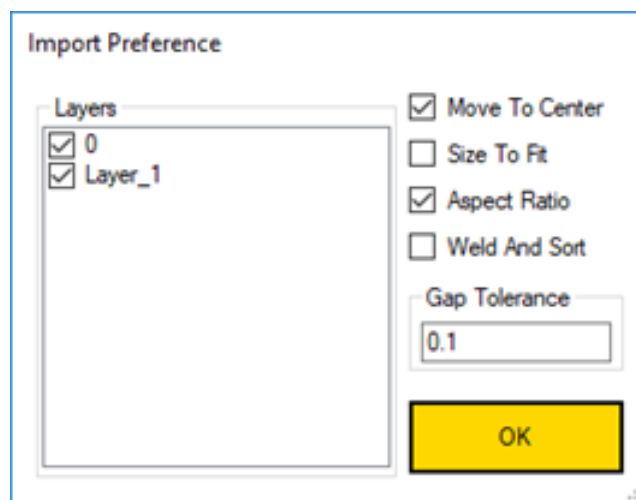

Figure 146: DXF Import for Wrap
1. Import DXF and select 'Move To Center' (see Figure 146). The DXF example used here includes a rectangle located at (10, 16.65) in the DXF coordinate.